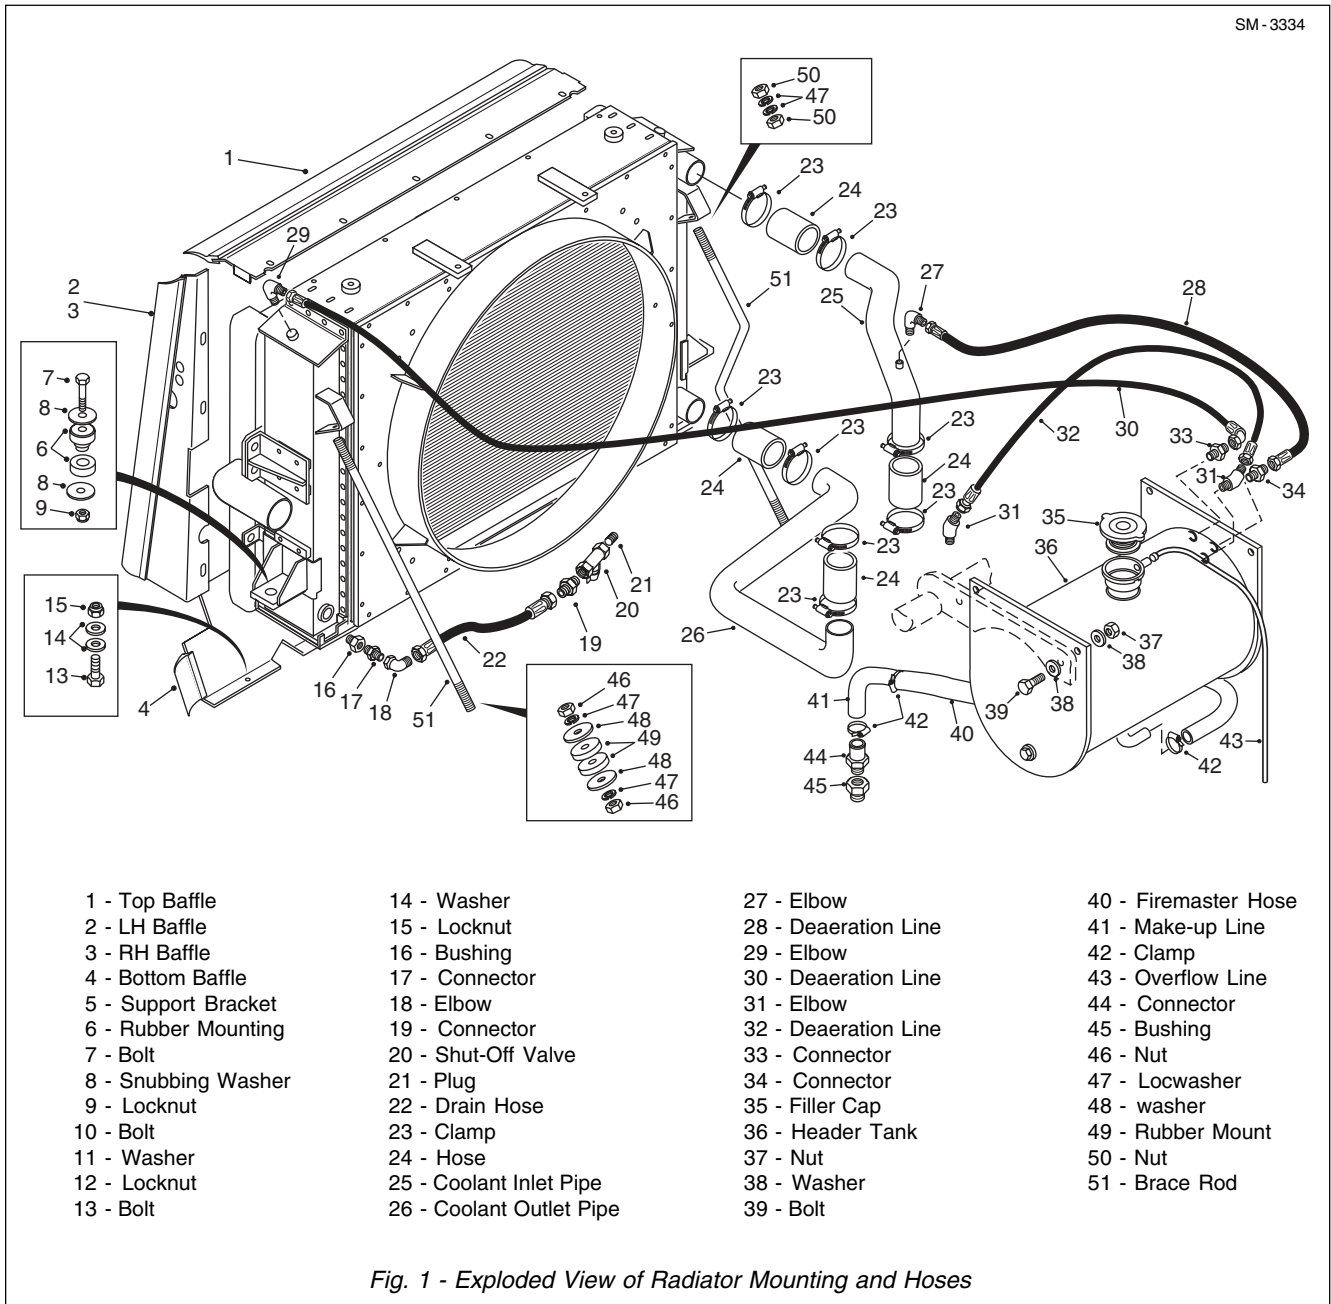

Fig. 1 - Exploded View of Radiator Mounting and Hoses
Numbers in parentheses refer to Fig. 1.
Numbers in parentheses refer to Fig. 1, unless otherwise specified.
Numbers in parentheses refer to Fig. 1 & 4, unless otherwise specified.
1. Remove bolts and washers securing fan guard (10) to radiator assembly. Remove fan guard (10) from radiator assembly.
2. Remove bolts (19) and washers (20,21) securing motor carrier frame (9) to radiator assembly. Remove motor carrier frame (9) from radiator assembly.
3. Following removal instructions in Section 210-0010, COOLING FAN AND MOTOR, remove fan drive motor (12) from motor carrier frame (9).
4. Remove bolts and washers securing fan plate assembly (7) to radiator assembly. Remove fan plate assembly (7) from radiator assembly.
5. Lay radiator assembly down flat on wooden blocks with baffle plates (1, 2 & 3, Fig. 1) facing up.
6. Remove bolts and washers securing top baffle (1, Fig. 1) to radiator assembly. Remove top baffle (1, Fig. 1) from radiator assembly.
7. Remove bolts and washers securing LH baffle (2, Fig. 1) and RH baffle (3, Fig. 1) to radiator assembly. Remove baffles (2 & 3, Fig. 1) from radiator assembly.
9. Remove bolts, washers and spacers securing charge cooler (18) to mounting brackets. Remove charge cooler (18) from radiator assembly.
11. Remove bolts, washers, lockwashers and nuts securing top column (5) to LH tank (3) and RH tank (4). Remove top column (5).
12. Remove bolts, washers, lockwashers and nuts securing bottom column (6) to LH tank (3) and RH tank (4). Remove bottom column (6).
13. Remove bolts, washers and nuts securing LH tank (3) to radiator core (1). If required, remove drain hose and fittings (16 - 22, Fig. 1) and elbow (29, Fig. 1) from LH tank (3). Remove LH tank (3) assembly and discard joint (2).
14. Remove bolts, washers and nuts securing RH tank (4) to radiator core (1). Remove RH tank (4) assembly and discard joint (2).
15. If damaged, remove rubber mountings (6, Fig. 1) from mounting brackets on side tanks (3 & 4) and discard.
1. If removed, apply Loctite 225 to threads of bushing (16, Fig. 1) and install in LH tank (3).
2. Fit new joint (2) on radiator LH tank (3) and secure LH tank (3) to radiator core (1) and supports with bolts, washers and nuts.
3. Fit new joint (2) on radiator RH tank (4) and secure RH tank (4) to radiator core (1) and supports with bolts, washers and nuts.
4. If removed, apply Loctite 225 to threads of elbow (29, Fig. 1) and install in LH tank (3) noting orientation of elbow as identified at disassembly.
5. If removed, install new rubber mountings (6, Fig. 1) in mounting brackets on side tanks (3 & 4).
6. Position top column (5) to radiator assembly and secure to side tanks (3 & 4) with bolts, washers, lockwashers and nuts.
7. Position bottom column (6) to radiator assembly and secure to side tanks (3 & 4) with bolts, washers, lockwashers and nuts.
9. Position charge cooler (18) to mounting brackets and secure with bolts, washers and spacers.
11. Install top baffle (1, Fig. 1) to top front of the radiator assembly and secure with bolts and washers.
12. Position side baffles (2 & 3, Fig. 1) to radiator assembly and secure with bolts and washers.